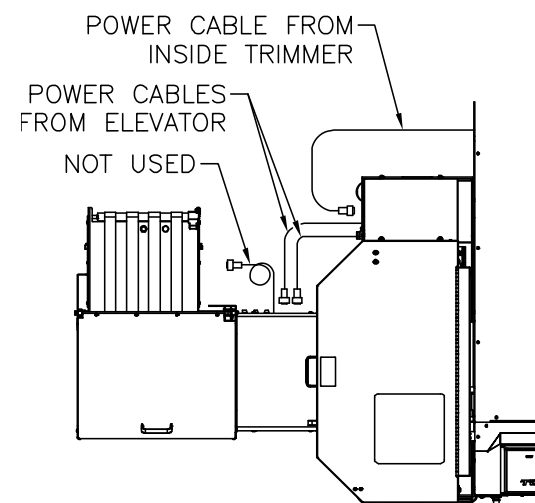

Figure 2-12. Power Cable Connections
- Connect the power cables as shown in Figure 2-12.